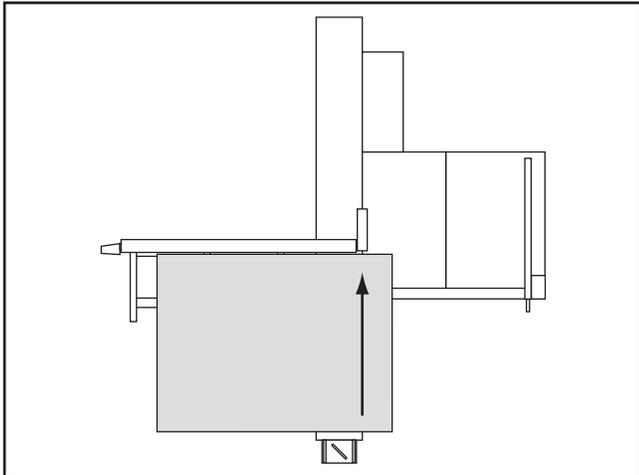

Figure 97. Example of full panel rip cutting.
The Model G0699 has the capability of rip cutting full-size panels, as shown in **Figure 97**. The sliding table saves time and increases accuracy by removing the burden of sliding a large and heavy panel over a stationary table surface.
8. Install the hold-down into the sliding table T-slot and use it to secure the workpiece to the sliding table. The set up should look similar to **Figure 97** on the previous page.